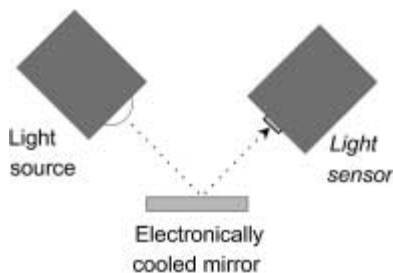

FIGURE 5.13 Chilled mirror.
*Chilled mirror* sensors use reflecting light to determine the dew point temperature of an airstream. A beam of light is bounced off an electrically-cooled mirror as shown in Figure 5.13 while an airstream passes over the mirror. The mirror is then cooled just until the point where condensation begins to form. The resulting water on the mirror scatters the beam of light so that the sensor does not pick it up. In theory, these kinds of sensors are extremely accurate provided that they are kept clean and within a specified temperature range. In practice, it seems like chilled mirrors are only appropriate for a few HVAC applications such as clean rooms and hospitals. The mirrors get dirty very easily and can be a big maintenance headache. In addition, chilled mirrors that experience outside air can rapidly become useless due to dust, pollen, and any other material that could get caught in the condensed water on the mirror. Given the cost of chilled mirrors (over \$1,000 per point), they should only be used when absolutely necessary.